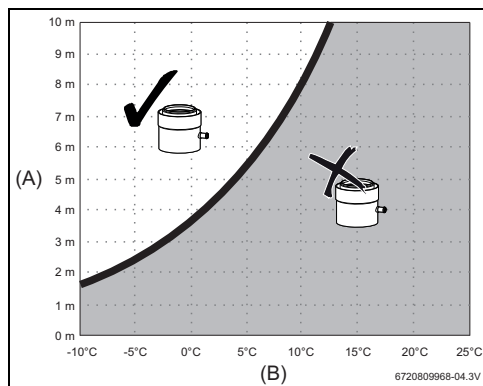

Fig. 4
- ▶ Calculate whether a condensate trap is required using Fig. 4.
When the intersection of the flue length and lowest average inlet air temperature is in the white section of the graph, a condensate trap is required. (See Fig. 4)